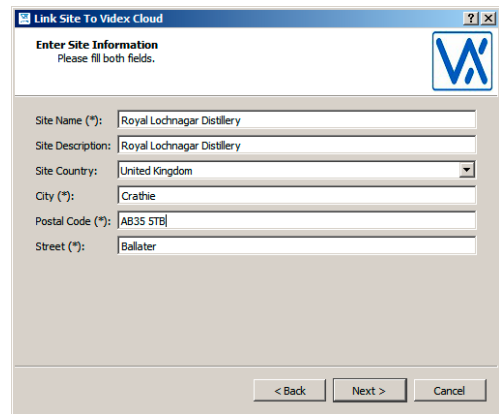

Fig. 39 Enter Site Information
- The software requests formation about the site, fill in the proposed fields (Fig. 39) then click the "next" button.